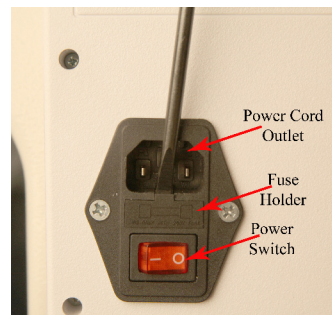

Figure 9
Step 1: Locate the fuse holder by removing the plug from the machine and between where the plug is plugged in and the on/off switch you will see a little rectangle piece with a fuse on it. *See figure 9*